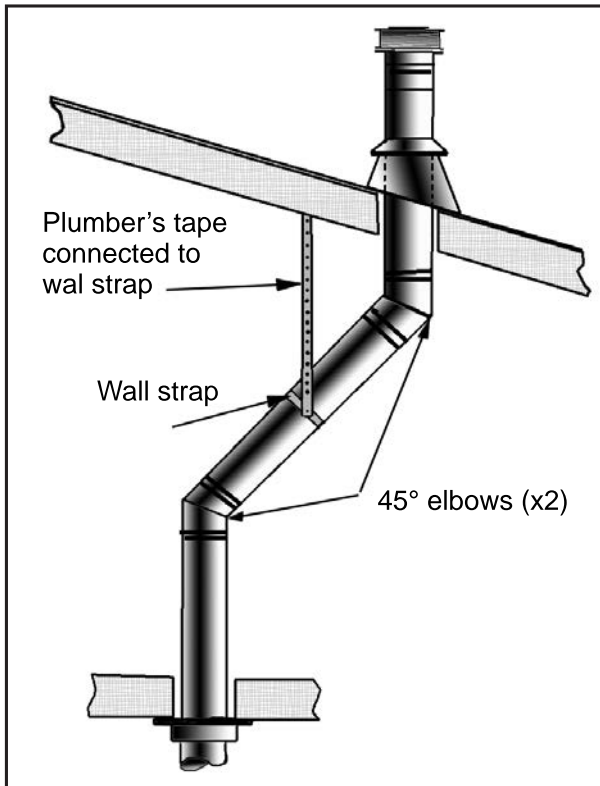
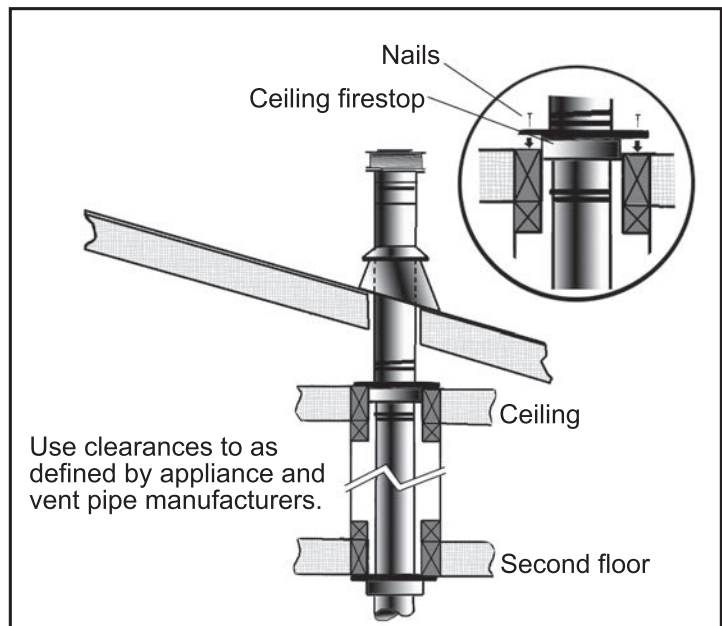

Figure 64: Use of Wall Straps.
Figure 65: Multi-Story Vent Pipe Installation
- (1) If an offset is necessary in the attic to avoid obstructions, it is important to support the vent pipe every **3' (914 mm)**, to avoid excessive stress on the elbows, and possible separation. Wall straps are available for this purpose (see Figure 64).
- (2) When ever possible, use 45° degree elbows instead of 90° degree elbows. The 45° degree elbow offers less restriction to the flow of flue gases and intake air.
- (3) For multi story installations; a ceiling firestop is required at the second floor, and any subsequent floors. The opening should be framed to **10" (254 mm) x 10" (254 mm)** inside dimensions, in the same manner as shown in Figure 65.
- (4) Any occupied areas above the first floor, including closets and storage spaces, which the vertical vent passes through, must be enclosed. The enclosure may be framed and sheet-rocked with standard building materials. However consult the appliance manufactures installation instructions for the minimum allowable clearance between the outside of the vent pipe, and the combustible surfaces of the enclosure. Do not fill any required air spaces with insulation.